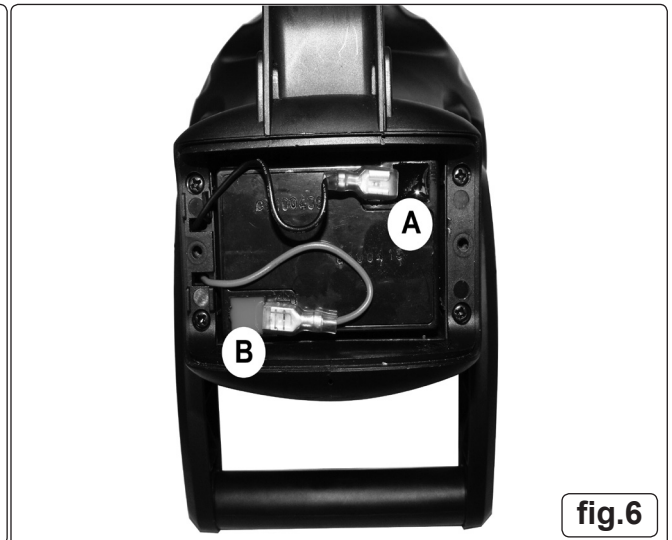

fig.6
4. Disconnect the black wire from the black negative terminal (fig.6.A) and the red wire from the red positive terminal (fig.6.B).